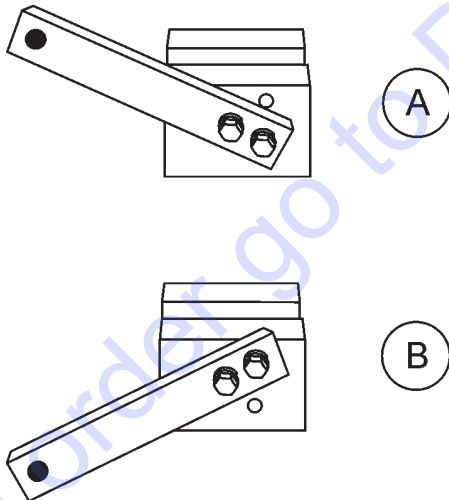

Figure 57. Trowel Arm Adjustments
2. Ensure the fixture arm is in the proper setting (up or down) for your trowel arm rotation as shown in Figure 57.